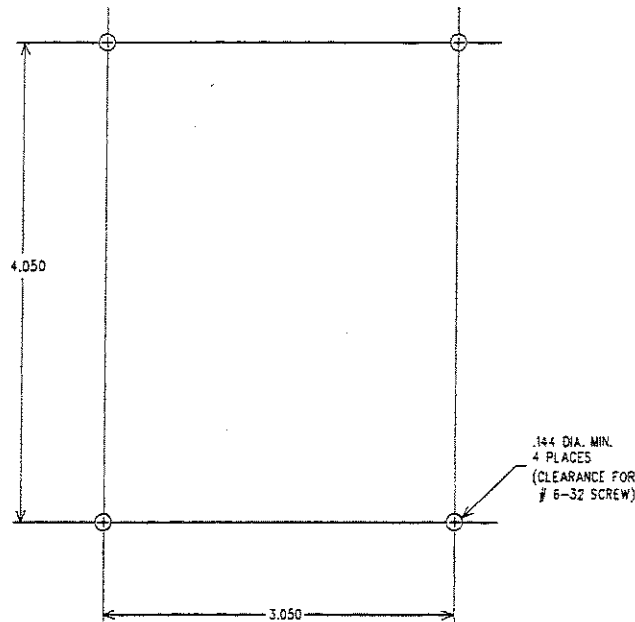

Figure A4 – Mounting hole pattern for fastening directly to the *DATAFLOW RTU* case.
- 14.1.1 You can use the holes in the back of the enclosure to mount the *DATAFLOW RTU* directly to a surface, using the recommended hole pattern shown in Figure A4. The four thread-forming screws can be used to secure the case to the surface, if desired, by removing the screws and reusing them. Alternately, four #6 - 32 machine screws may be used; ensure they do not extend more than 5/16" into the case.